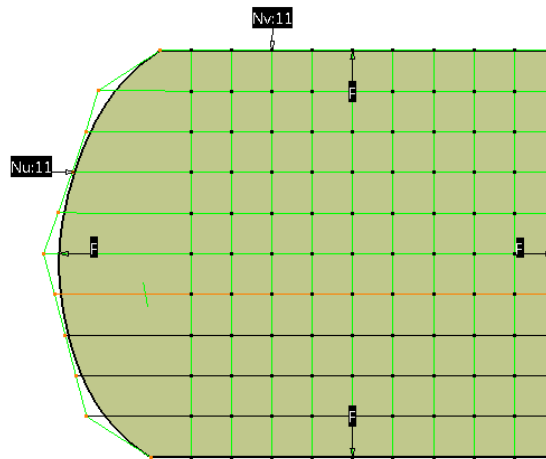

Figure 18-65 The surface after dragging the corner control point
2. Select the corner point and drag it inward in the surface; the surface after dragging the corner point is displayed, as shown in Figure 18-65.